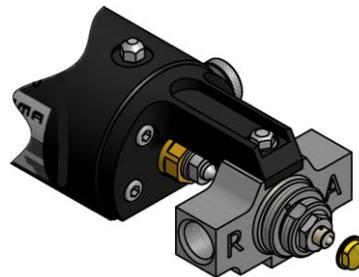

Figure. 10
10. Remove the PCD and clean it with gun-cleaning solvent (see **Figure. 10**).
8. Remove the PCD and clean it with gun-cleaning solvent (see **Figure. 10** page 12).